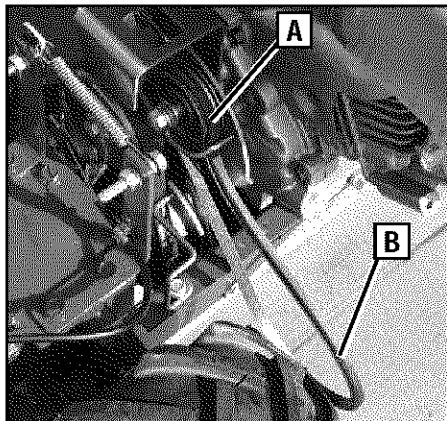

Figure 5-16
3. Move the reverse clutch belt (A, Figure 5-16) out of the way. Press on the reverse idler pulley to create slack. Then slip the bottom half of the belt completely off the transmission pulley.